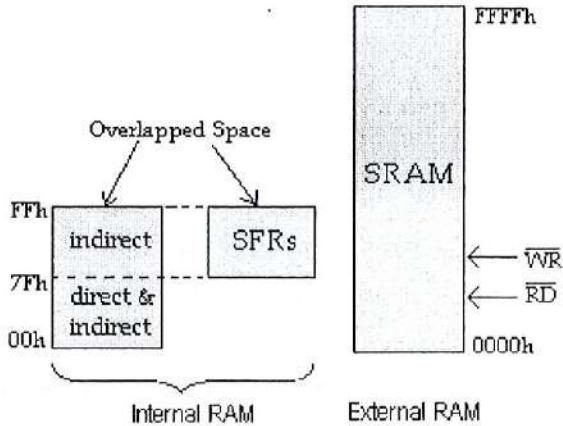

Figure 1/Rajah 1
- S4. Refer to Figure 1. Write an instruction(s) to clear the content of internal RAM at byte address location of 88H.